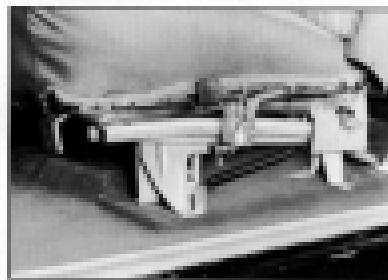

Fig. 63. 70 and 80 Series Front Adjuster Attachment
- Remove 5 bolts each side attaching seat bottom to seat adjuster mechanism. (See "A", Fig. 63)